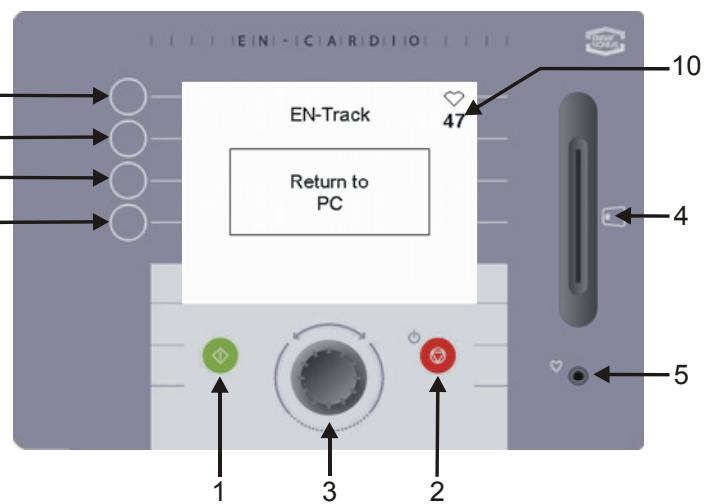

Fig. 19 Returning to the PC
5. When all the exercises have been performed, EN-Track will refer you to the PC. (Fig. 19)